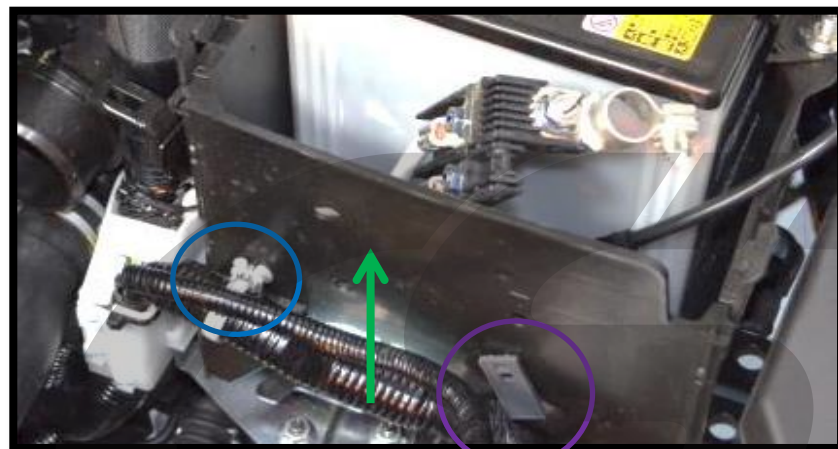

Figure 2c
e) **Remove the front battery box panel.** Remove the MAF wiring harness clip (blue circle Figure 2c), and negative battery cable clip (purple circle Figure 2c), from the front battery box panel using needle nose pliers to compress the clips on the inside of the battery box. Then slide the panel upwards and remove it (green arrow in Figure 2c).